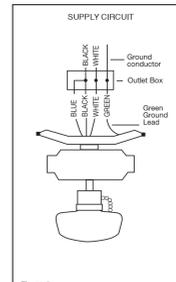

Figure 5
Step 1 Use the square hole at one end of the supporting bar to hang fan on the hook of the hanger (Figure 8). Connect wire according to wiring instruction (Figure 5 and 9).
Step 1 Connect the fan supply (black) wire and light supply (blue) wire to the black household wire as shown in Figure 5. Do not connect the blue wire if the light kit is not used.